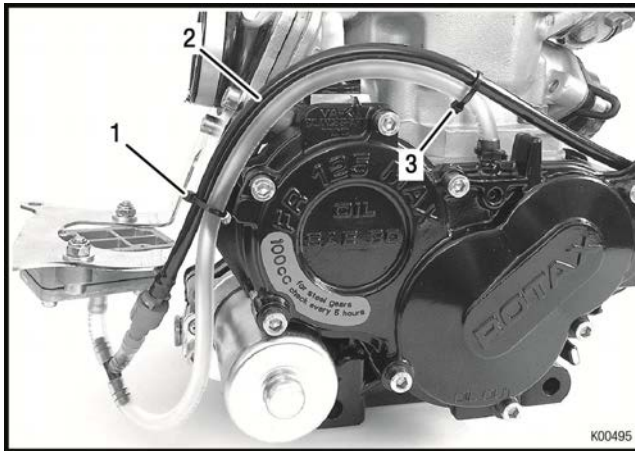

Fig. 22
- ➔ Fix another tie wrap (pos. 1) at the fixing point (bore) on the engine housing. Secure both lines with tie wrap (pos. 3), ensuring that the black hose (pos. 2) is on top. See Fig. 22